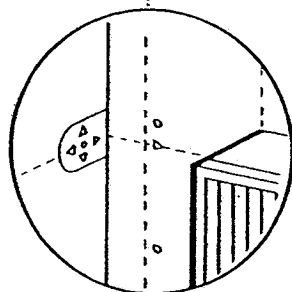

Fig. 36
7. From the wall template remove the detachable section outlined and marked. Using this as a template, line up the horizontal triangular cut outs with the extended 300mm (12 in) line and make sure that the flat of the template is butted up against the corner of the wall (Fig. 36).